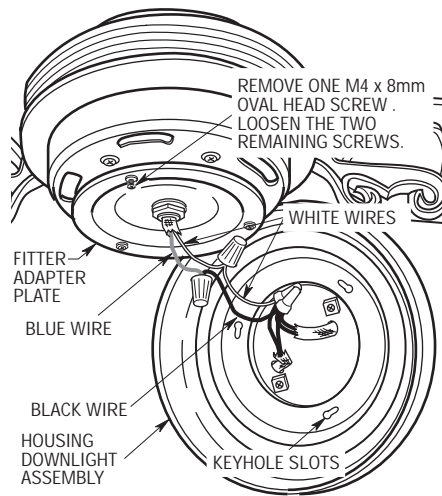

Figure 13
- 7. Engage the connectors of the housing downlight assembly with the connectors of the motor assembly (black to blue; white to white) (Figure 13).